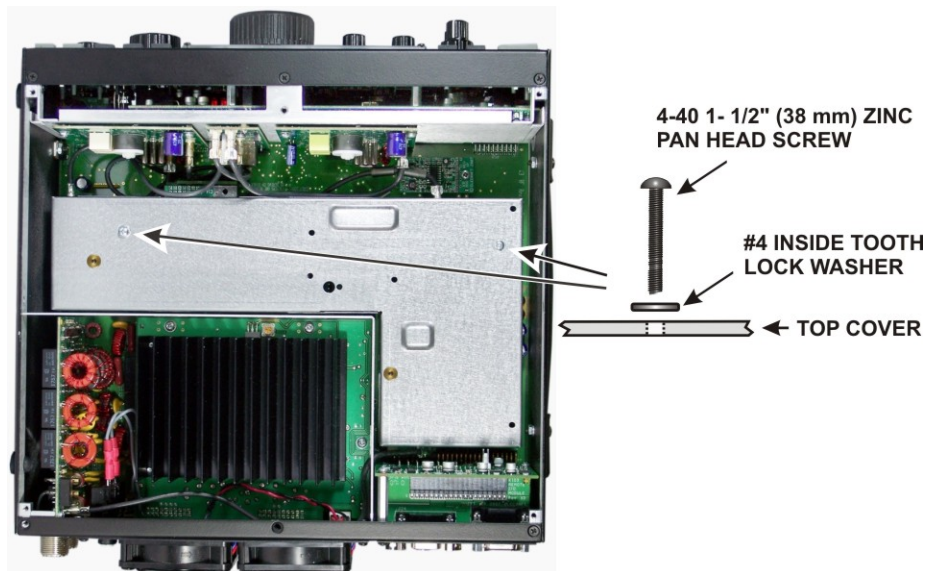

Figure 2. Removing the KRX3 Module.
If your K3 is equipped with the optional KRX3 Subreceiver, you must remove the subreceiver module to install the KXV3A. The KRX3 subreceiver module is the “L” shaped metal enclosure (see Figure 2). Remove the subreceiver module as follows:
- Remove the two 1-1/2” (38 mm) screws and lock washers shown in Figure 2. These screws extend all the way through the KRX3 module and secure it to standoffs mounted on the main RF board that fills the bottom of the K3.